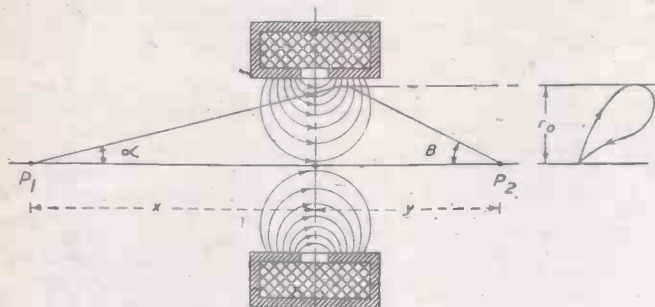

Fig. 7.—Short magnetic lens.
electron lens (3) is shown in Fig. 7, the left-hand portion of the diagram being a projection on a plane through the axis of symmetry and the right-hand portion of the diagram being a projection on a plane perpendicular to this axis. The lines of force drawn characterise the magnetic field of the lens. The electrons leave the axis at  $P_1$  and reach it again at  $P_2$ . The distances from  $P_1$  and  $P_2$  to the middle plane of the lens are "x" and "y" respectively; the angles which the electron ray makes with the axis at  $P_1$  and  $P_2$  are  $\alpha$  and  $\beta$  respectively. The maximum distance of the electron from the axis is r.